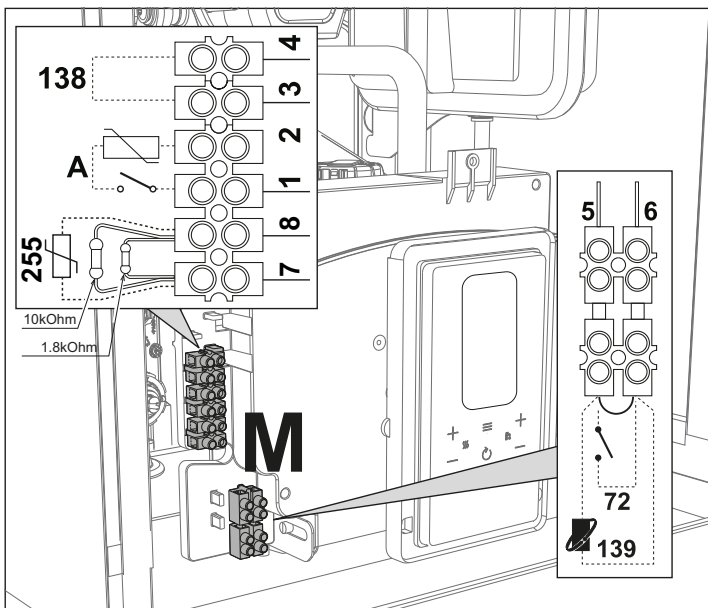

fig. 28
Remove the front panel (*** 'Opening the front panel' on page 336 ***) to access the terminal block (M) and fuse (F) by proceeding as follows (and fig. 28). **The terminals indicated in must be with voltage-free contacts (not 230V).** The arrangement of the terminals for the various connections is also given in the wiring diagram in fig. 65.
ON/OFF switch configuration (A fig. 28)